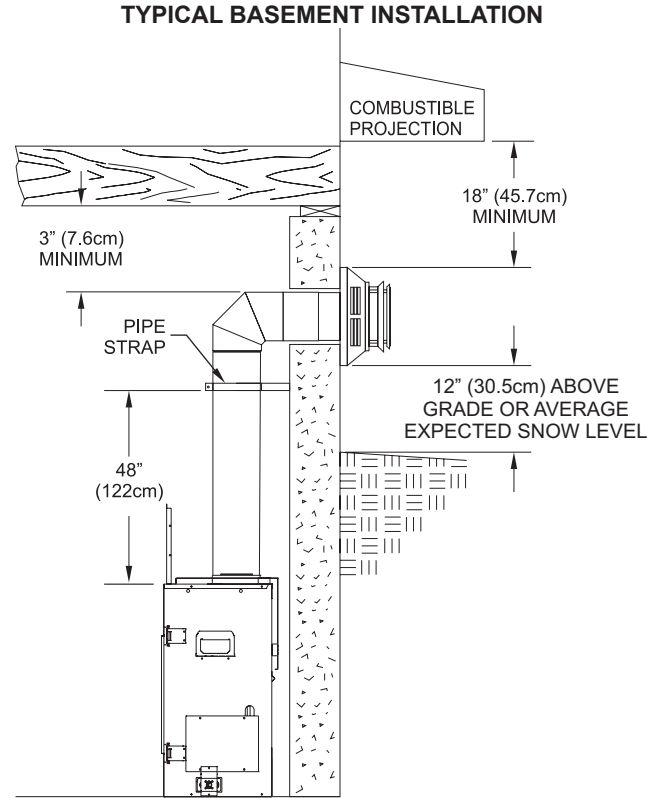

Figure 46
**NOTICE:** Corner installation will require more vertical vent pipe than just the minimum required depending on wall thickness and horizontal dimension. Refer to Figure 46, page 29.
what systems are acceptable. Check all clearances and venting components. Identify if any problems exist in the vent system. Use **Figure 46** on page 29 for top venting to eliminate issues after installation. Check pipe diameter on vent system and fireplace to verify the size is the same.
See Figure 46 on page 27 for permissible horizontal and vertical run dimensions.